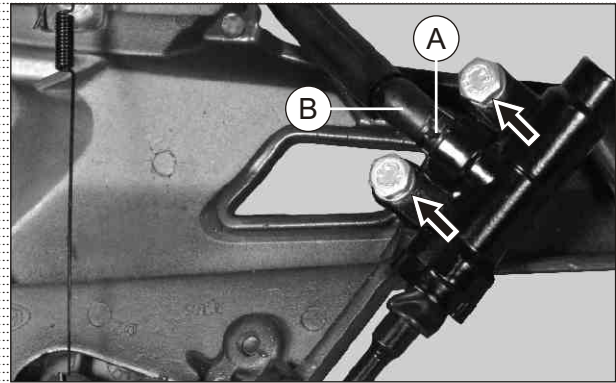

Fig. 6.114
- Remove clip hose (A) and take out hose oil (B). (Fig. 6.114)
- Remove hexagonal screws (M6x40 - 2 nos) along with punched washers. (Fig. 6.114)